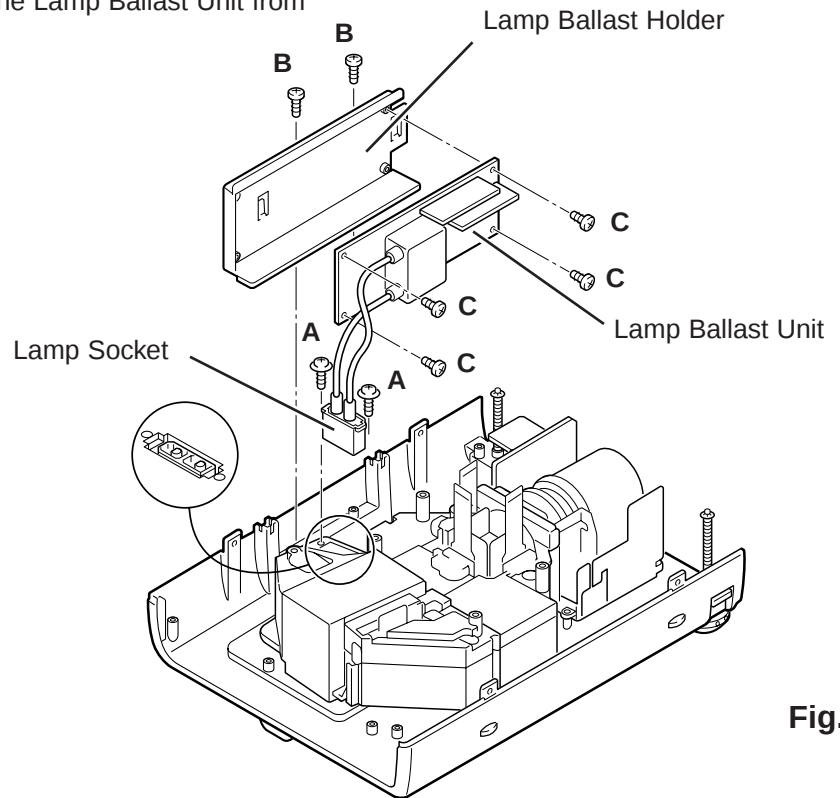

Fig.8
- \* When fixing the grounding lead of the Filter Board, disconnect the lamp socket (refer to Fig.8) first, and fix the grounding lead then connect the lamp socket.